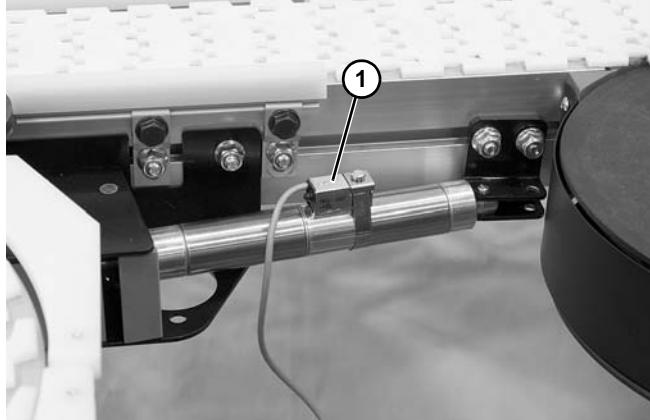

Figure 38
Reed sensors (**Figure 38, item 1**) can be mounted on the cylinder. A divert module with magnet installed must be requested.